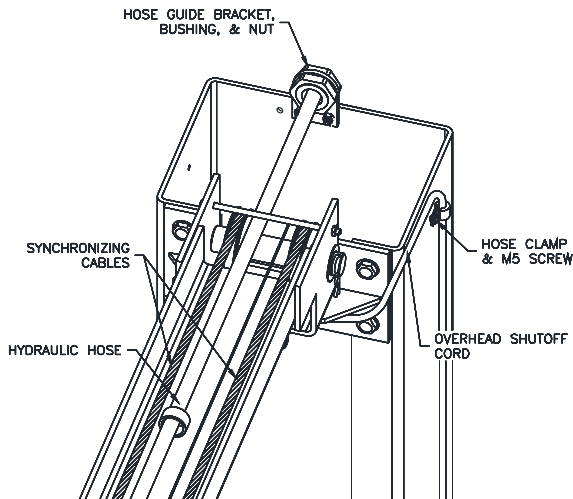

**Fig. 6 – Hose Routing**
- 21) Mount Power Unit to power column as shown in **Fig. 6** using (4) M8 hex bolts and nuts.
- 26) Route the power hose from the power side cylinder elbow fitting up to the union tee provided. Connect idler hose and power unit hose to the union tee as shown in **Fig. 6**.